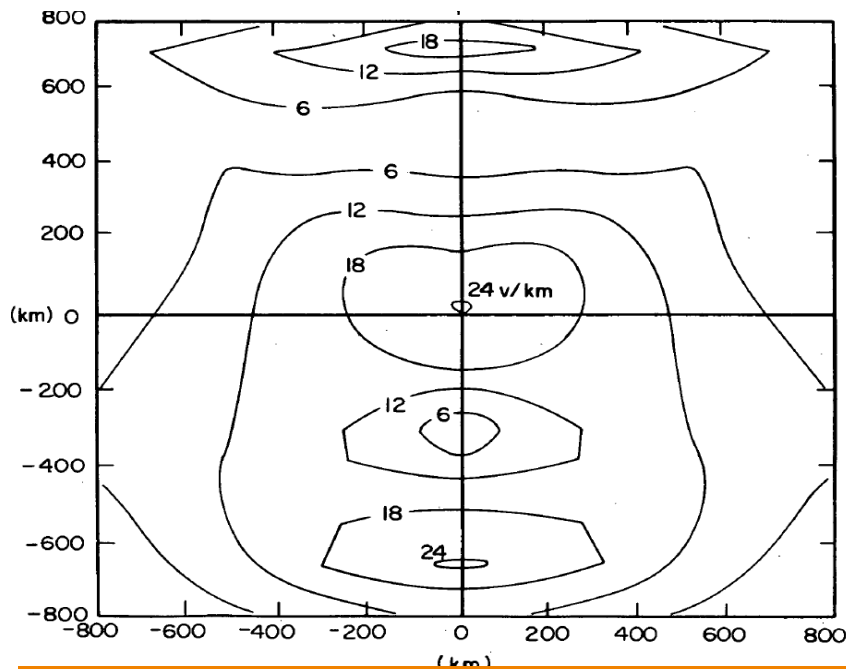

Fig 9: Electric Field Magnitude
Left Image: IEC 1000-2-9, Figure 9, Right Image: ORNL “Study to Assess the Effects of Magnetohydrodynamic Electromagnetic Pulse on Electric Power Systems Phase I Final Report,” May 1985, Figure 8
The 1985 ORNL suggests modeling the electric field as the product of a spatially independent time function (fig 8), and time independent spatial magnitude and directions (fig 9 and 10)
Images: ORNL 1985 Report, Figures 9 and 10
- The 1985 ORNL report models the electric field during the E3B as the product of a spatially independent time function (fig 8), and time independent spatial magnitude and directions (fig 9 and 10)